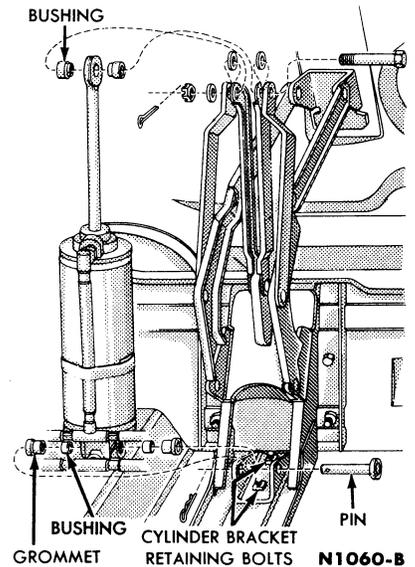

FIG. 19—Deck Lift Cylinder
2. From underneath the lower back panel, remove the deck cylinder bracket retaining bolts from each cylinder (Fig. 19).